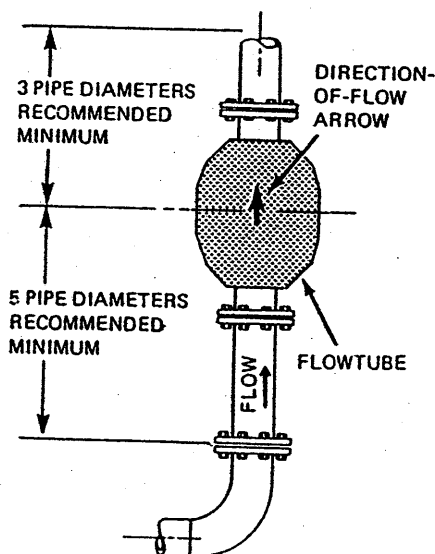
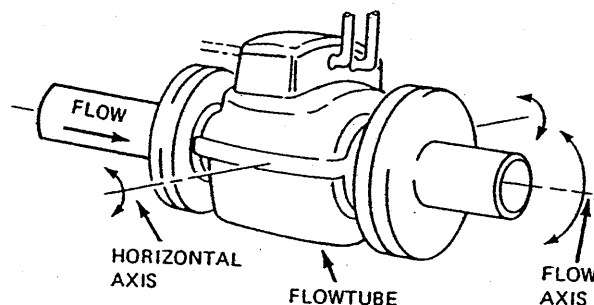

Figure 13.
Figure 14.
5. To avoid possible loss of accuracy, it is recommended that the flowtube be connected in a straight section of pipe at least five pipe diameters upstream from the center line of the flowtube and three pipe diameters downstream as shown in Figure 13. The center line of the flowtube is the same location as the electrode location. Note that for some small line sizes, the recommended straight runs of pipe are included in the overall length of the flowtube.
The flowtube can be mounted in any position: vertical, horizontal, or at an angle. However for accurate measurement, the flowtube must be completely full. Vertical installation with flow in an upward direction, as shown in Figure 13, is generally recommended. This is particularly so in slurries with abrasive solids. If mounting flowtube in other than a vertical position, it is recommended that flowtube be turned about the flow axis shown in Figure 14 so that electrodes are horizontal. Electrodes should be horizontal to avoid contacting bubbles (at top) or sediment (at bottom) inside metering tube.
Flow through the flowtube can be in either direction. However, if it is installed with the "direction-of-flow" arrow (shown in Figure 13) pointing upstream, it will be necessary to reverse the flowtube coil-drive wires. An indication that the coil-drive wires should be reversed is given by a negative flow reading or "-A" reading during process flow. Wiring details are given in the "System Wiring" section.